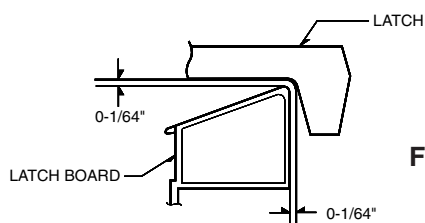

Figure 23
- (2) Close the door tightly and check gaps A and B to be sure they are no more than 1/64" (0.5 mm). See Figure 23 for close-up view of gaps A and B (door latches). If all gaps are less than 1/64" (0.5 mm), adjustment of the latch board may not be necessary. Go to Steps 5 and 6 to check the sequence of the switches.